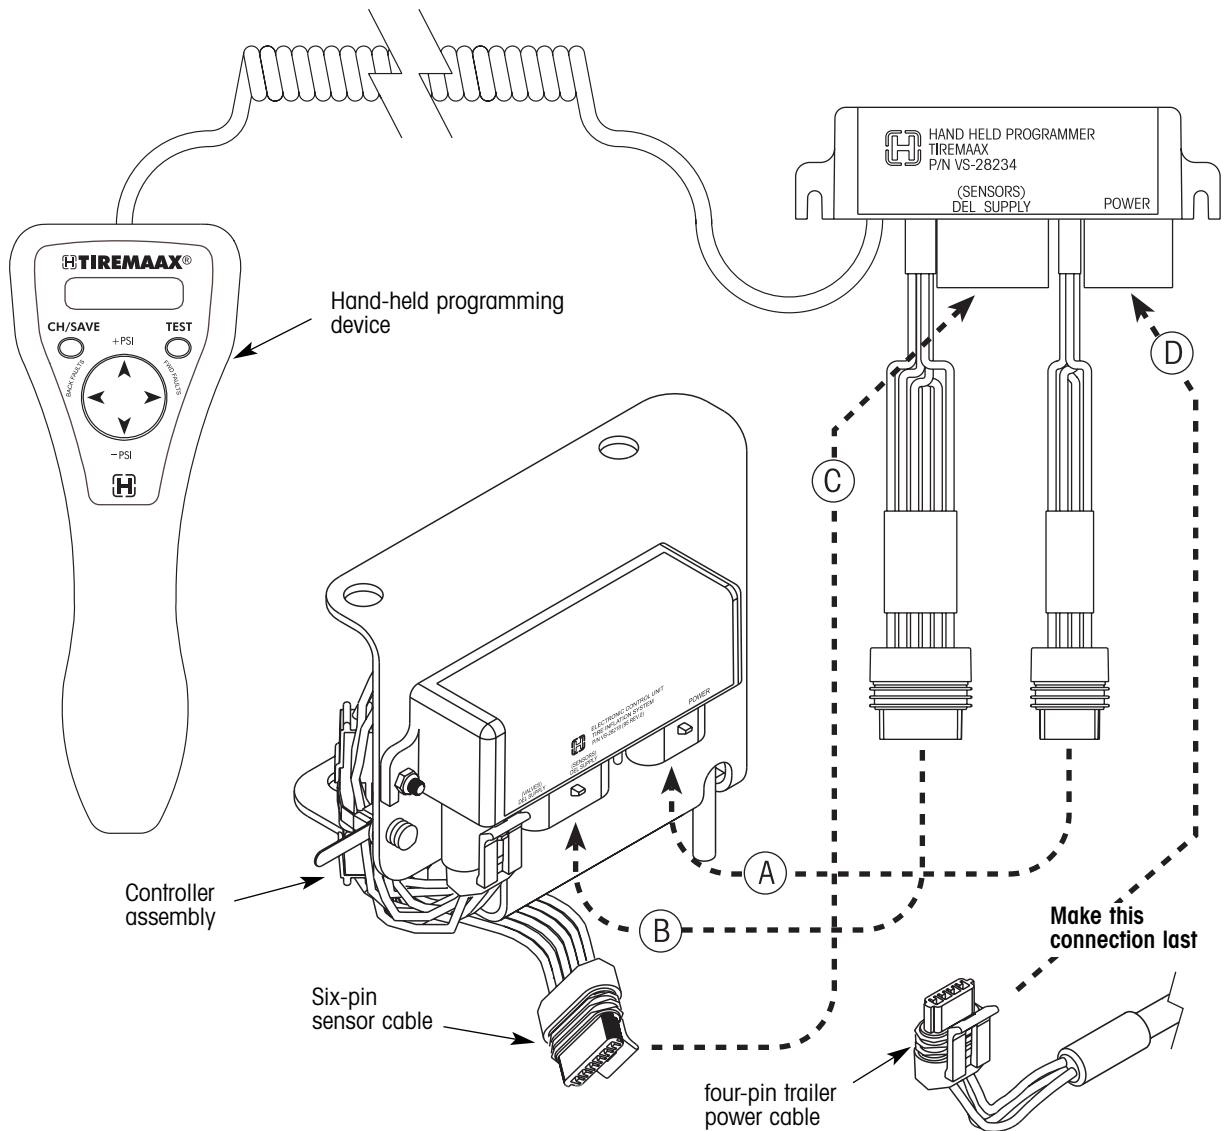

Figure 31. Connecting the hand-held programming device to the controller assembly ECU
6. Plug the six-pin connector from the hand-held programming device into the open six-pin socket on the controller assembly ECU (connection B, figure 31).
7. Plug the six-pin sensor cable from the controller assembly into the six-pin socket on the hand-held programming device (connection C, figure 31).
8. Plug the four-pin trailer power cable into the four-pin socket on the hand-held programming device (connection D, figure 31).